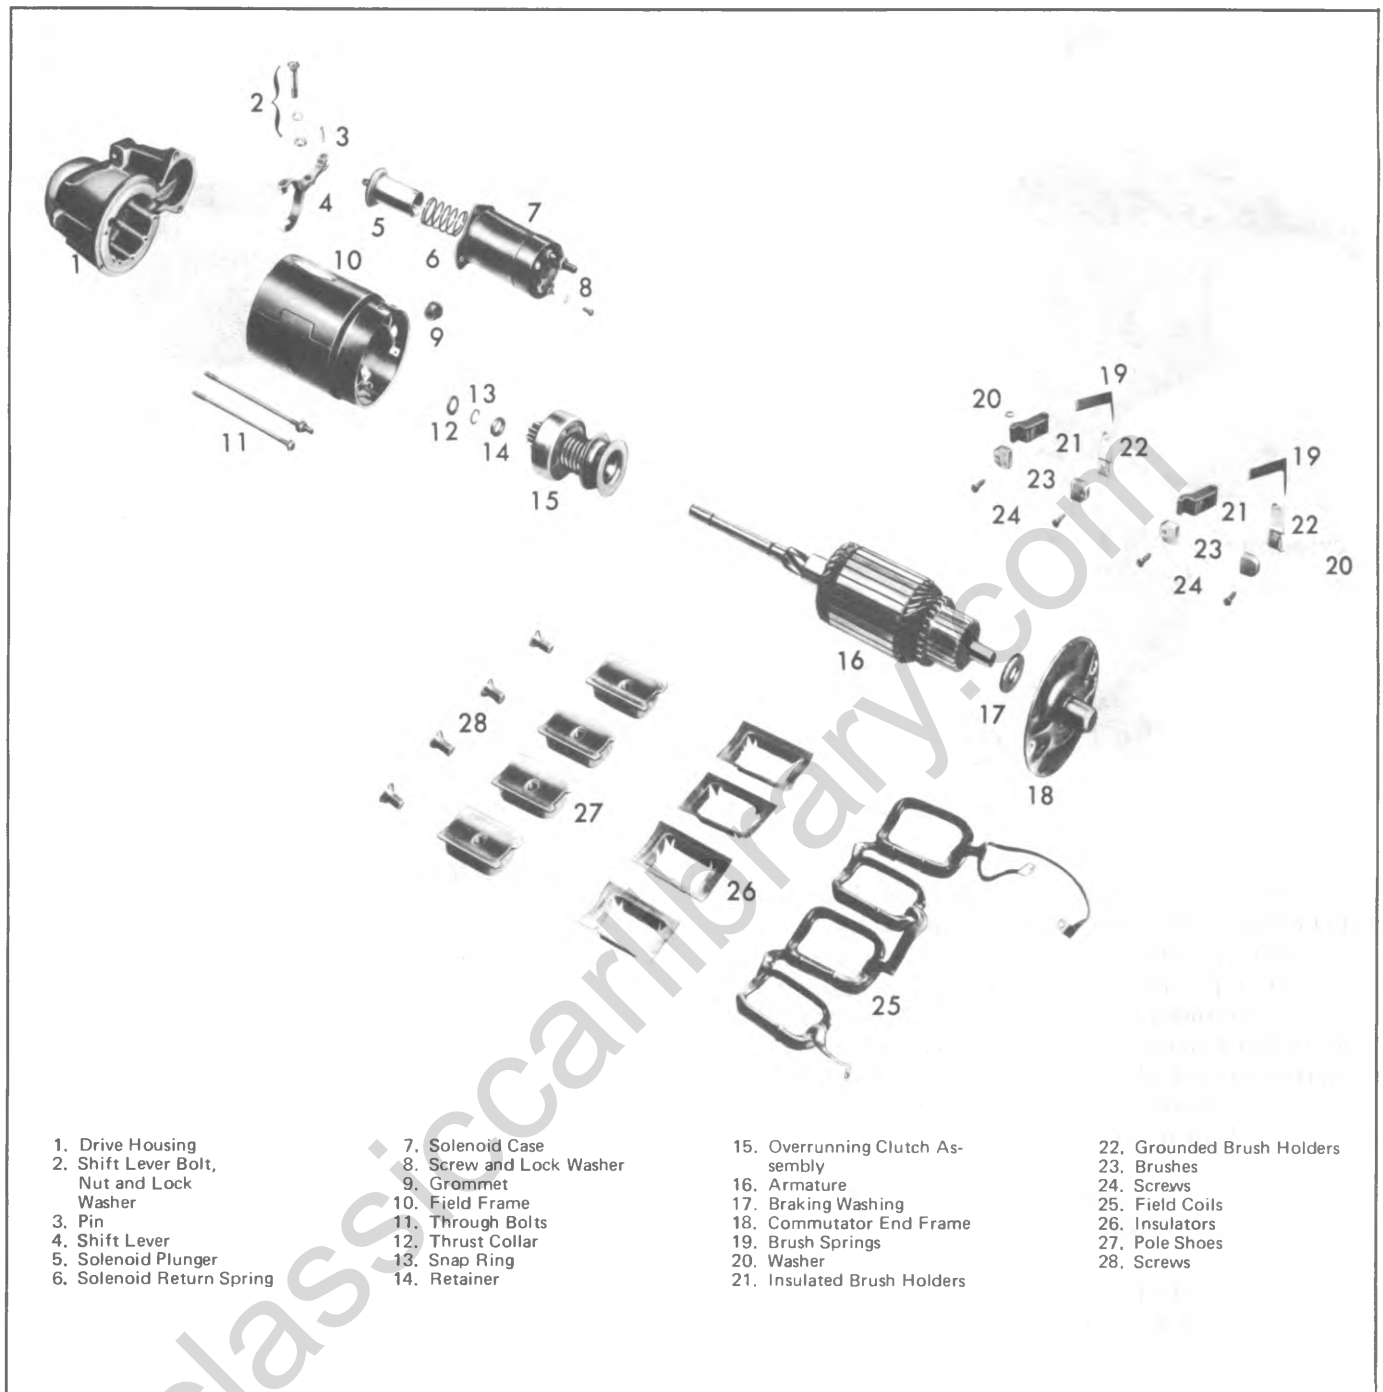

Fig. 6D-11s--Starting Motor Parts Layout
b. Slide a standard half-inch pipe coupling or other metal cylinder of suitable size (an old pinion of suitable size can be used if available) onto shaft so end of coupling or cylinder butts against edge of retainer (fig. 6D-12s). Tap end